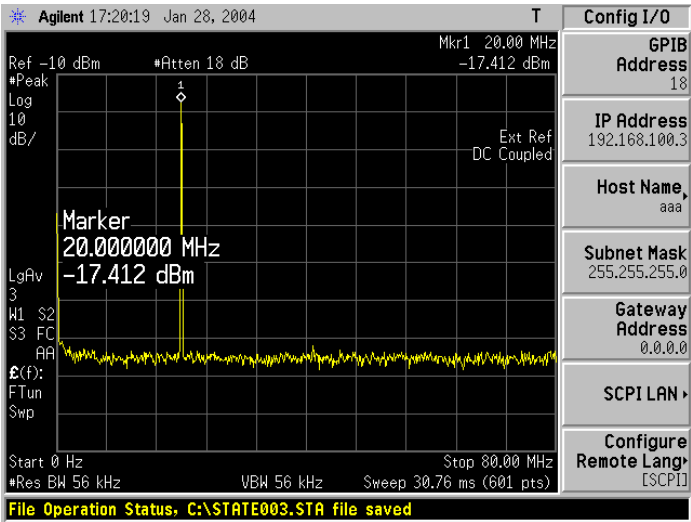

Figure 2: Spectrum analyzer Display of Output
12. You should see the spectrum shown in Figure 2.